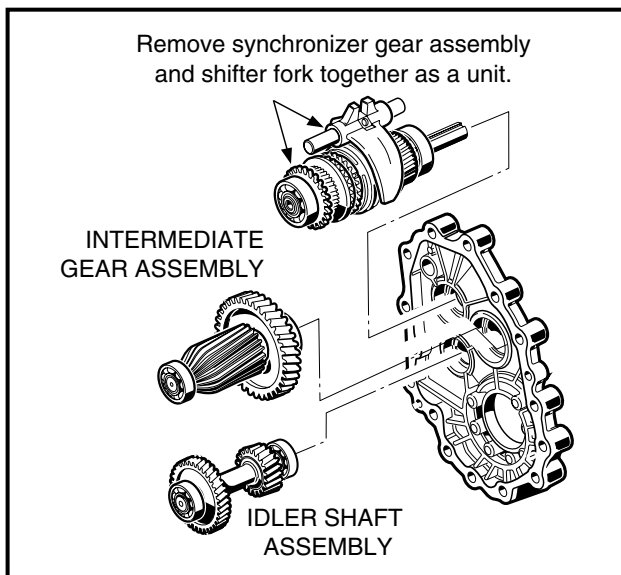

Figure 7-8 Remove Intermediate Gear
9. Continue to rock and loosen the remaining gear assemblies until the intermediate gear assembly can be removed from the case. Then remove the idler shaft assembly (**Figure 7-8, Page 7-5**).
10. Remove the synchronizer gear assembly and shifter fork assembly as a unit from the case (**Figure 7-8, Page 7-5**).